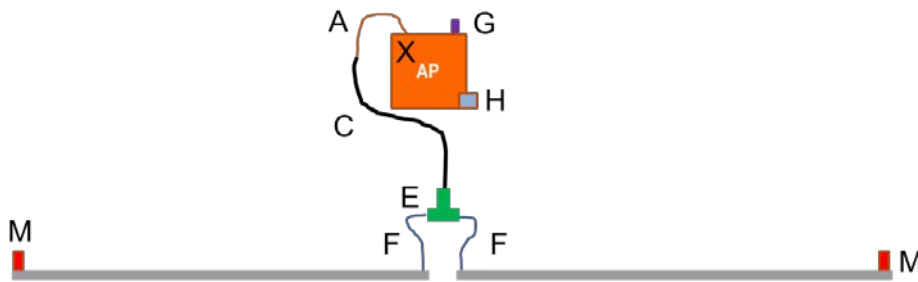

Fig. 70: Connection diagram for section power feed
- Attach the adapter cable (A) to the socket (RSMA) on the transceiver (X) and connect it with the antenna connecting cable (C) (via N plug). The N plug of the adapter cable (A) can also be used as a switch cabinet feed-through.
- The adapter cable (A) must be grounded. The integrated switch cabinet feed-through can be used for this purpose.
- Connect the line feed connecting cable (C) to the splitter (E).
- Connect the two line feed connecting cables (10 m) (F) to the splitter (E).
- Guide the line feed connecting cables (F) to the line feeds (see Fig. 70) and connect them. Align the angled plugs parallel to the rails.
- Connect a terminating resistor (M) to both segments on the stationary antenna.